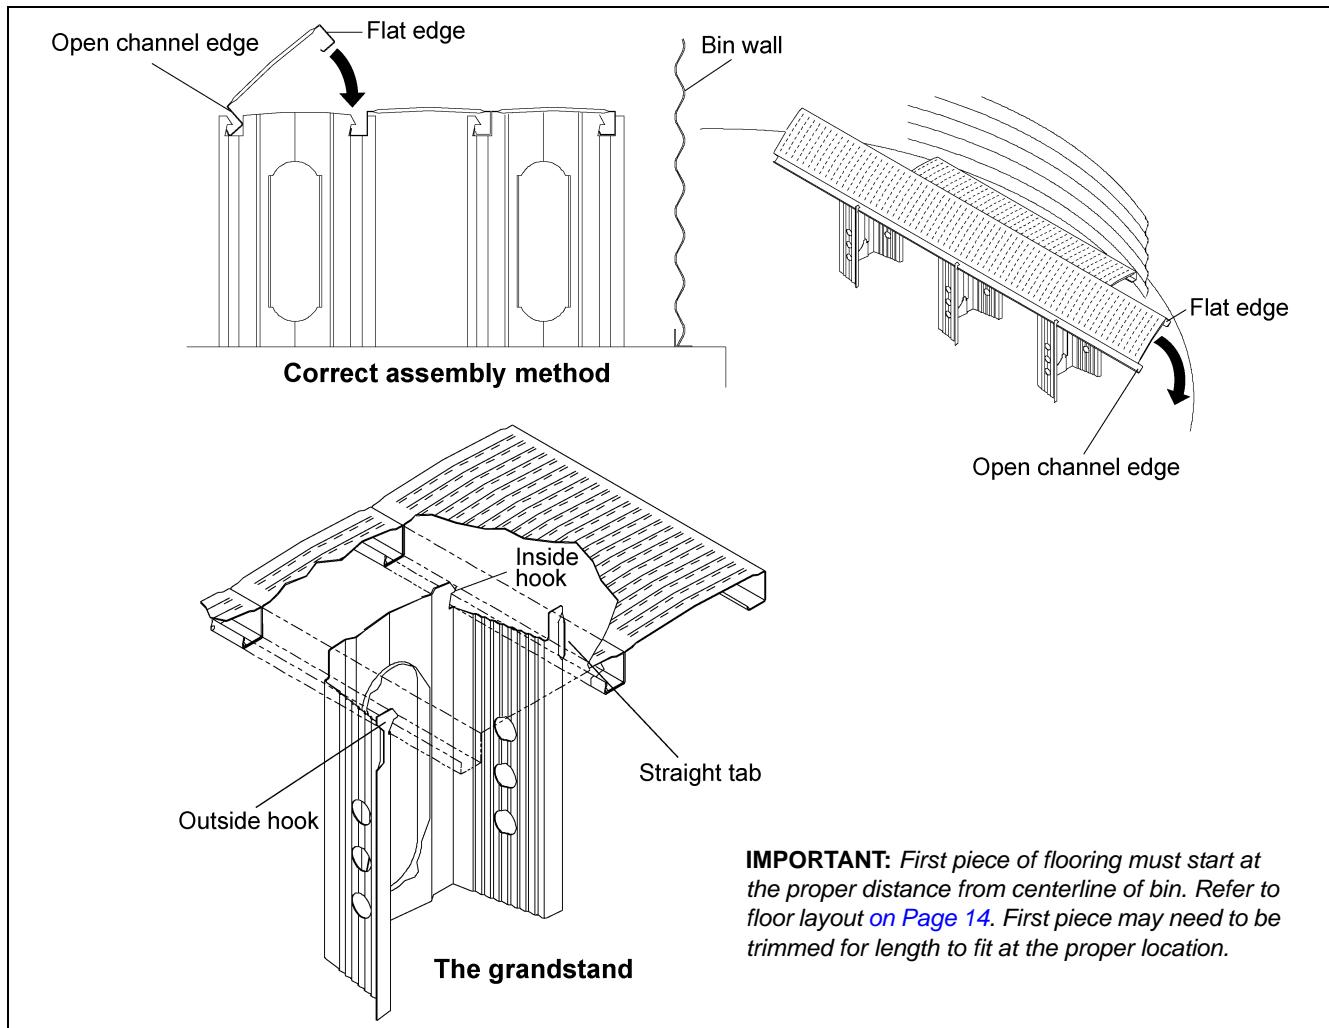
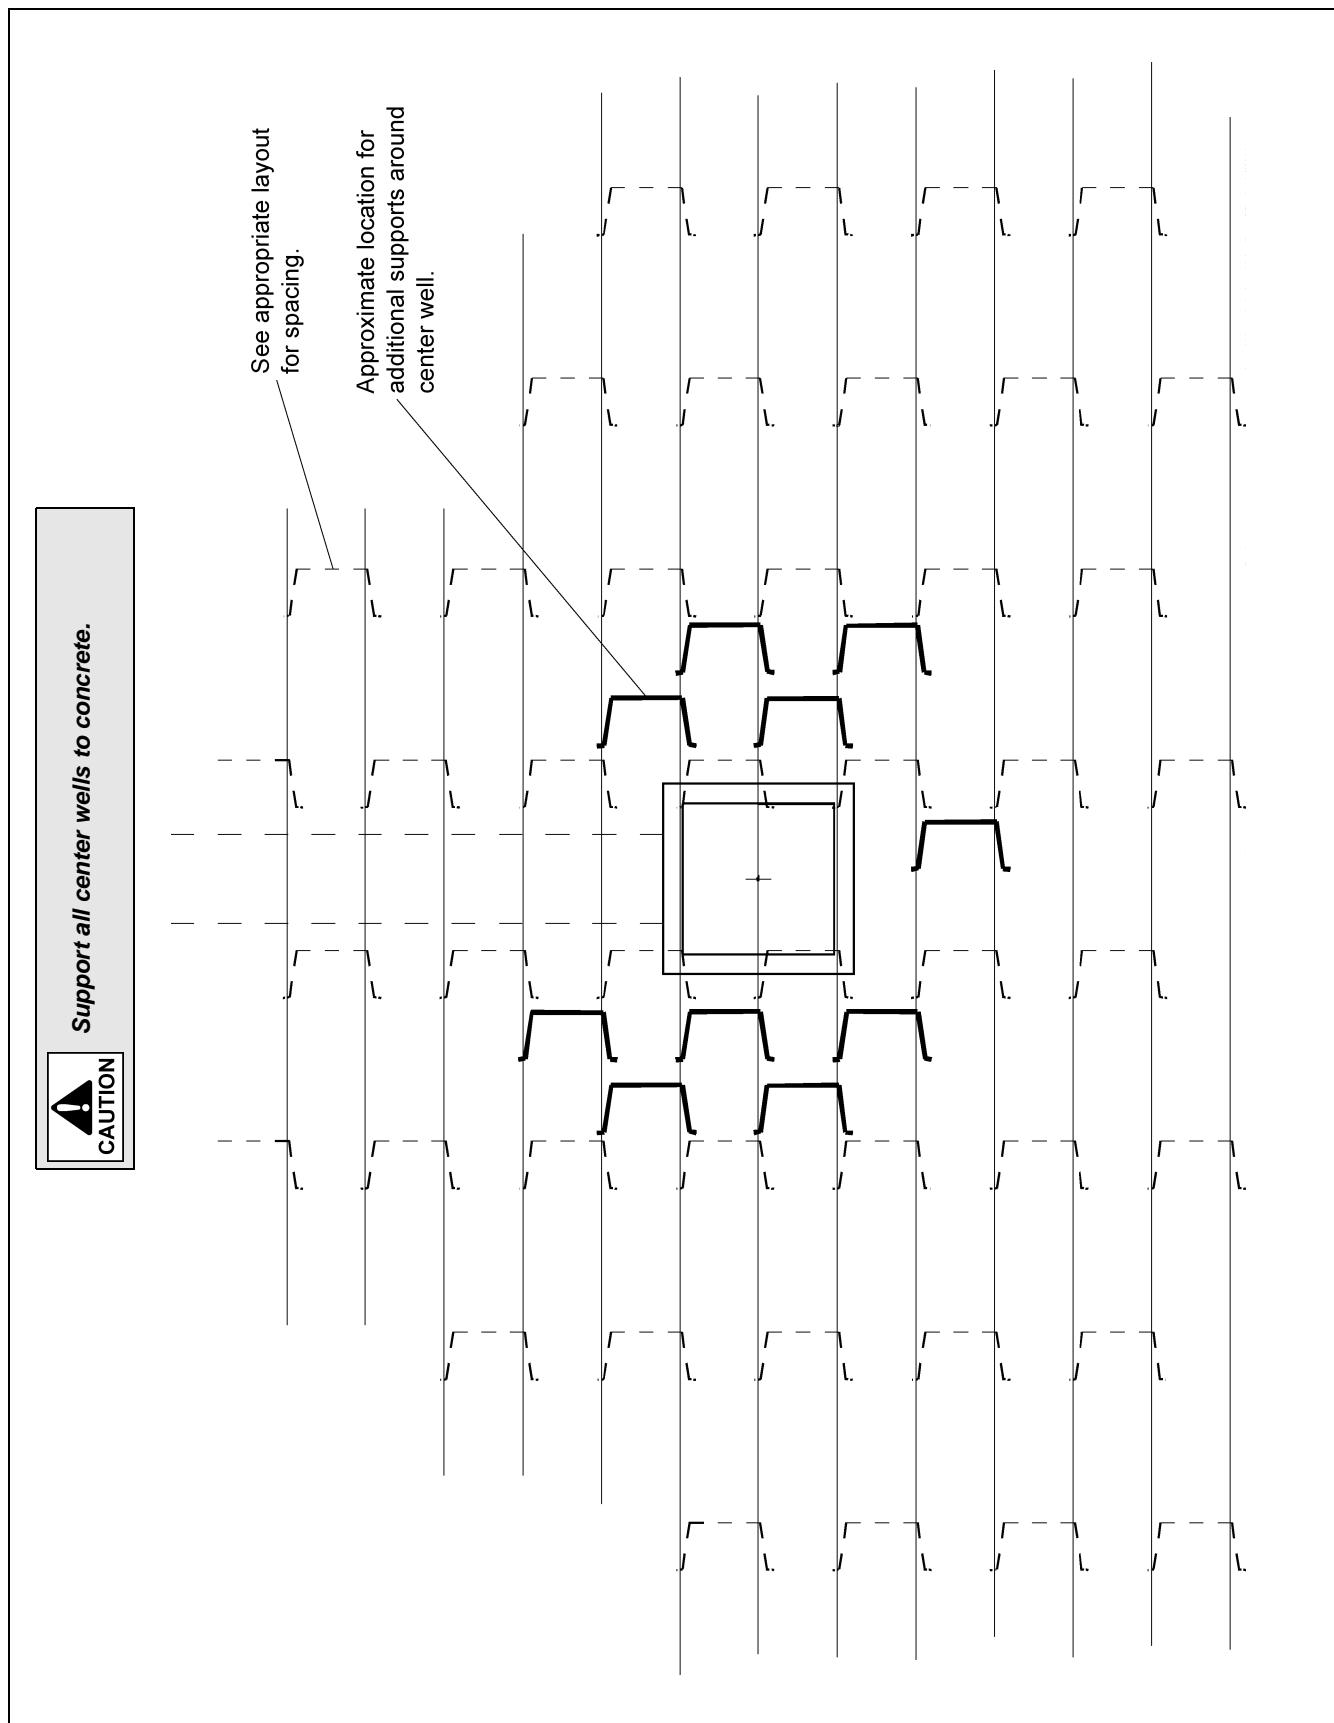
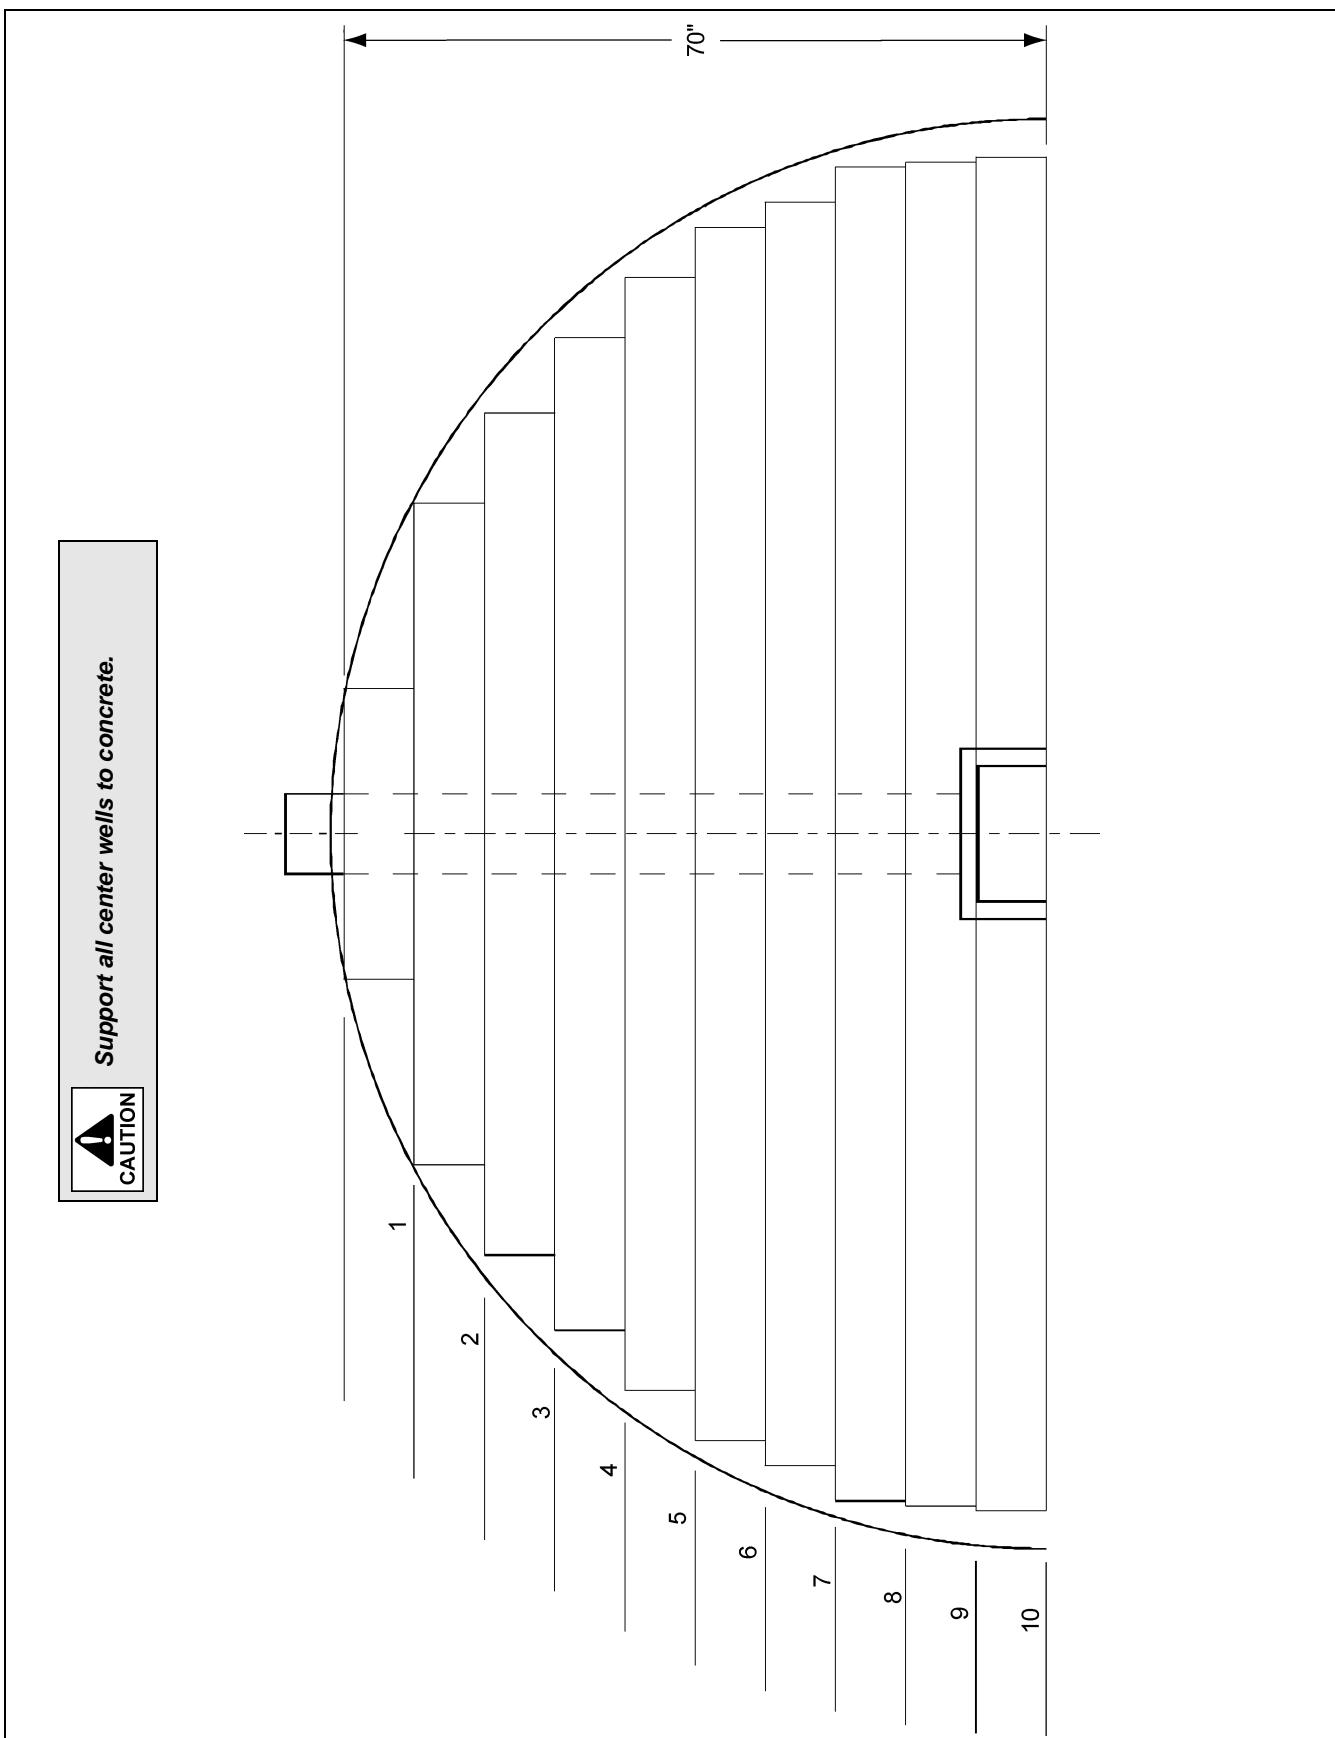

Figure 2C
Figure 5A
Figure 6A
4. Install flooring starting at the bin wall on the opposite side of the unload auger. Floor planks should be placed perpendicular to the unload auger with the outside edge the correct distance from the center of the bin. (See Figure 6A on Page 14.) Be sure the flat edge of the floor plank is facing the bin wall and the open channel edge is facing towards the center of the bin. (See Figure 2C.) Position the supports for the first/shortest floor plank according to the number of bin rings and corrugation as shown in the illustrations on Pages 21-26 or stated in the charts on on Pages 27-28. Attach the flashing to flooring and bin wall to hold plank in place. (See Page 12 for flashing installation.)
5. **POSITION THE NEXT ROW OF SUPPORTS ACCORDING TO THE CHALK LINES** and support layout. The straight tab should “snap” under the first (previous) floor piece. After the supports in the row are correctly positioned, install the next floor piece by hooking the open channel edge under the outside hooks of the floor supports. Push down sharply on the edge of the floor piece until it snaps into the previous floor piece. (See Figure 2C.) Continue this process for the rest of the floor cutting planks for center and intermediate wells as needed. See Figure 5A on Page 13 for center well support locations.